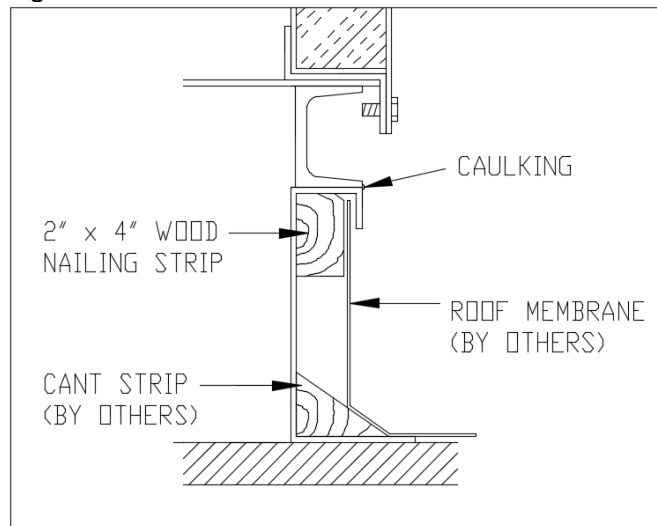

Figure 16: Cross section of Roof Curb.
6) Apply caulking to edge between unit base rail and roof curb (ref. Figure 16). Tool in caulk to ensure proper seal. Failure to provide an adequate seal can result in air and water leakage into the building.